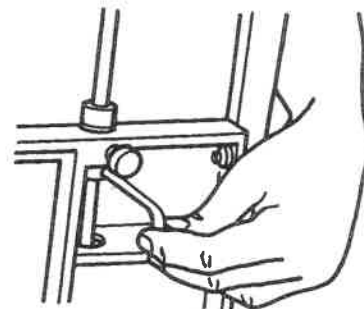

Fig. B-8
9. Insert the long end of the 5/32" Allen wrench into the lower bushing nut in the back of the slide assembly, as in Fig. B-8.